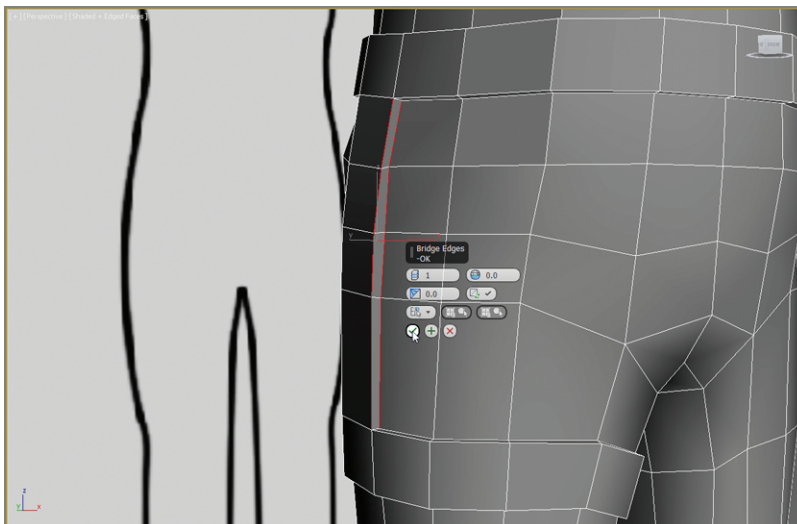

FIGURE 8.17 Use Bridge to fill the gap on the side of the strap.
11. Select the edges between the new bridged polygons and the model's hip, and then use Bridge, change segments to 1, and leave all other parameters at the default, as shown in Figure 8.17. Be sure to repeat this on the other side of the holster.